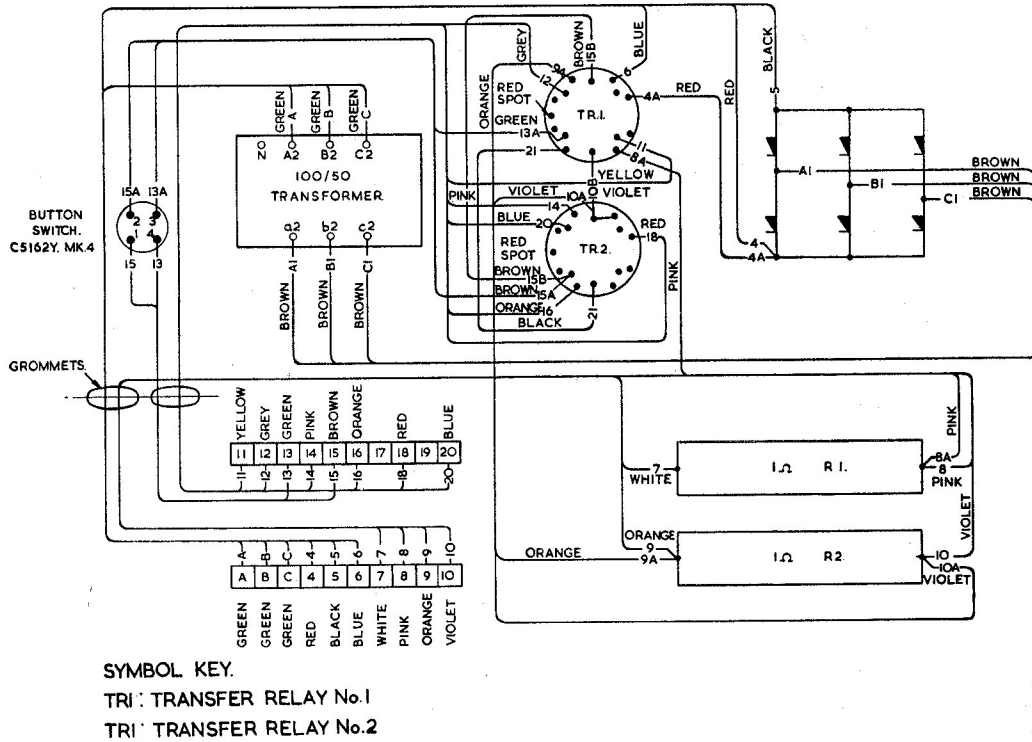

Fig. 3. Schematic wiring diagram
4. Relay TR1 in fig. 3 is energized by a signal from the Type AE7002 control panel. It has four pairs of contacts. Contacts TRI-2 and TRI-3 (normally open), when closed these switch the Type AE7511 magnetic amplifier regulator on to the a.c. generator exciter field terminals, and also on to resistors R1 and R2. Contact TRI-1 (normally open), when closed, energizes the operating coil of relay TR2. Contact TRI-4 (normally closed), when open inserts a resistance in series with the carbon pile operating coil in order to reduce the carbon pile resistance to a minimum, as it remains in circuit during generator control by the magnetic amplifier regulator.
5. Relay TR2 in fig. 3 operates three pairs of contacts, TR2-1 contact (normally open), when closed maintains the operating voltage (under normal generator line voltage conditions) on the TR1 coil. Contact TR2-2 is normally closed, in this position it provides a signal to disconnect the radar from the generator by means of the radar master control. TR2-3, contact normally open, when closed increases the generator exciter bias field current, during operation on the magnetic amplifier regulator.
6. The transformer rectifier unit in fig. 3 consists of 3-phase transformer and full-wave